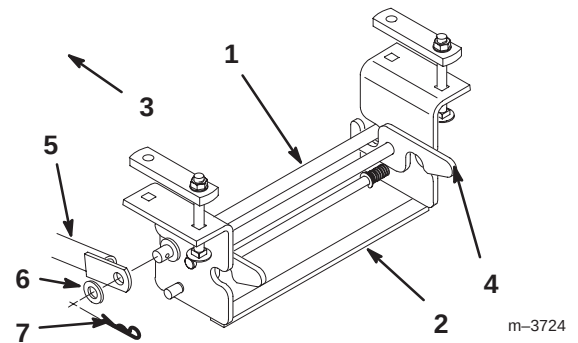

Figure 29
- Remove the other ends of the two support braces from the rear Attach-A-Matic hitch mount by removing the hairpin cottes and washers (Fig. 29).
- Release the latches on the rear Attach-A-Matic hitch and remove the support rod link (Fig. 29).